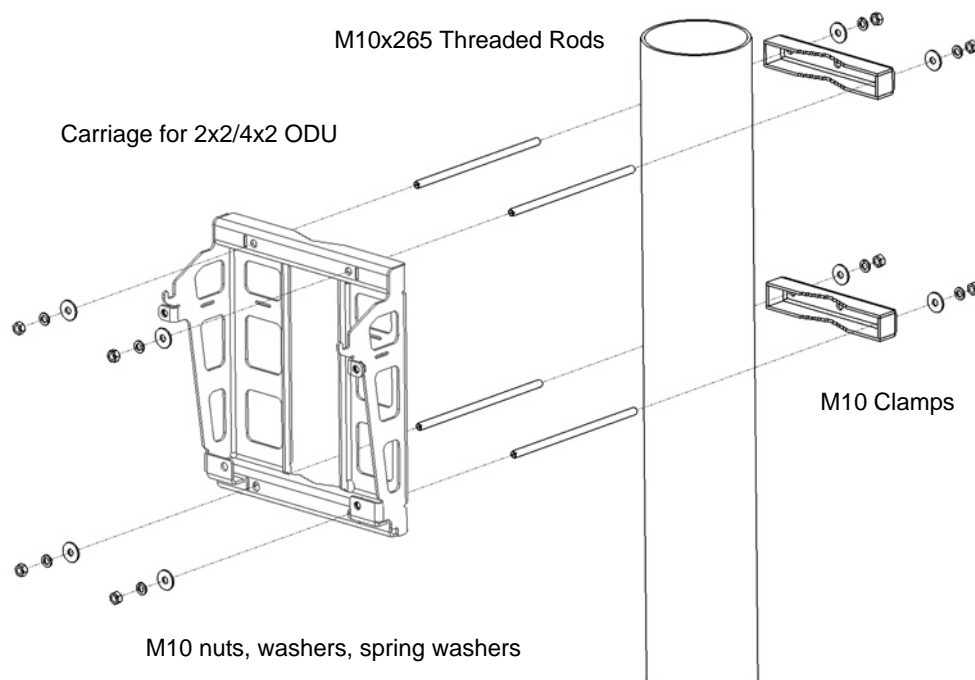

Figure 2: Mounting the Single 2x2/4x2 ODU Carriage on a Pole
- 3 Thread the four M10x265 threaded rods through the carriage and the rear clamps (Figure 2).